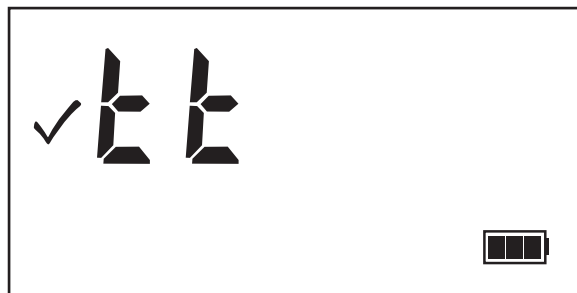

Figure 22
3. Press the  button two times to activate the Test Tone display screen. It should look similar to Figure 22.